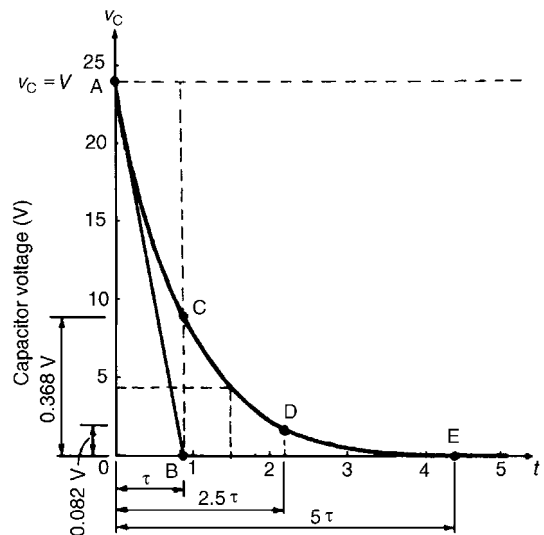

Figure 18.5
- (a) The exponential decay of capacitor voltage is from 24 V to 0 V in a time equal to five time constants, i.e.  $5 \times 0.88 = 4.4$  s. With reference to Fig. 18.5, to construct the decay curve:
- (vi) the value of the transient after a time equal to two and a half time constants is 0.082 of the initial value, i.e.  $0.082 \times 24 = 1.97$  V, shown as point D in Fig. 18.5,
- (b) The voltage drop across the resistor is equal to the capacitor voltage when a capacitor is discharging through a resistor, thus the resistor voltage/time characteristic is identical to that shown in Fig. 18.5. Since  $v_R = v_C$ , then at 1.5 seconds after decay has started,  $v_R \approx 4.4$  V (see (vii) above).